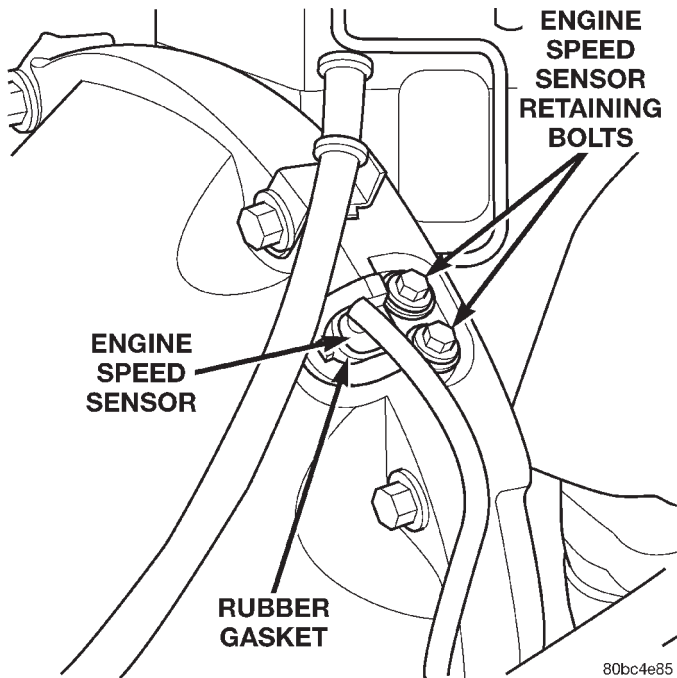

Fig. 22 Engine Speed Sensor
(1) Install the engine speed sensor in the transmission adapter plate.
(2) Install the (2) engine speed sensor retaining bolts (Fig. 22). Torque the bolts to 11 N·m (97 in. lbs.).
(3) Connect the engine speed sensor electrical connector (Fig. 22).